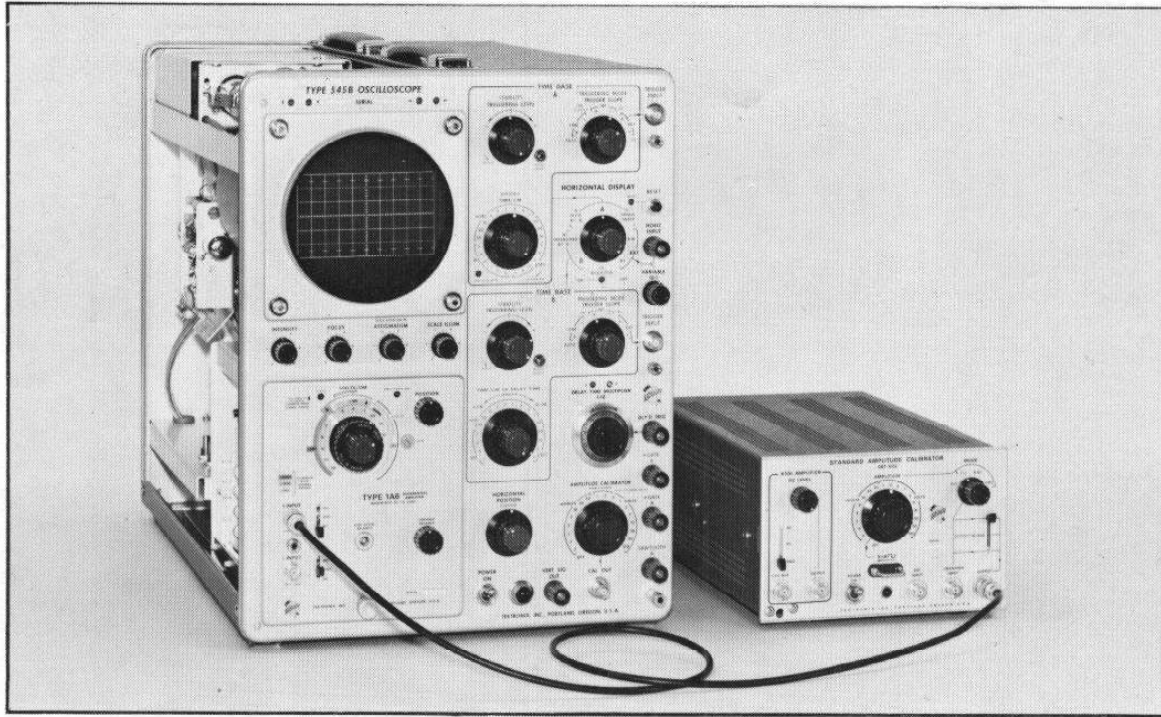

Fig. 6-5. Equipment setup for steps 5 and 6.
- Test equipment setup is shown in Fig. 6-5.